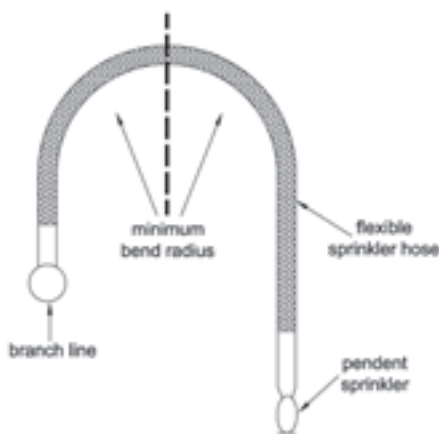

Figure 3: Flexible sprinkler hose installed with a "U" bend.
One scenario that has led to field confusion is where the flexible sprinkler hose is shaped like a "U". This can be seen in Figure 3. It has been mistaken that this U-shape is a single bend in the flexible hose, when in reality the number of bends is provided in relation to 90-degree bends. This means that there are two (2) bends in the U-shape. If a specific hose is only permitted to have one 90-degree bend, this would be a problem.